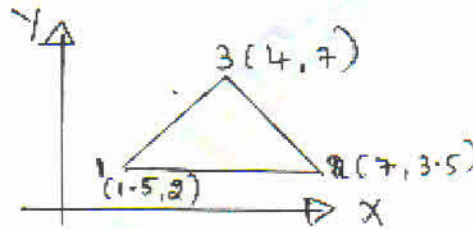

Fig.Q6(c)
- c. Obtain Jacobian for the triangular element as shown in Fig.Q6(c). (04 Marks)